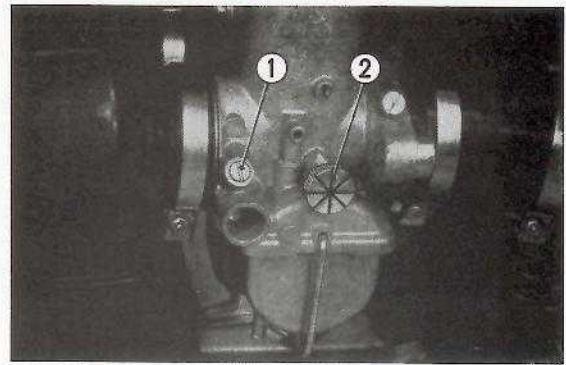

Fig. 6-15 ① Air screw
- e. Gently turn the air screws in until they seat, then unscrew them one full turn each. (Fig. 6-15)
- (2) Final adjustment